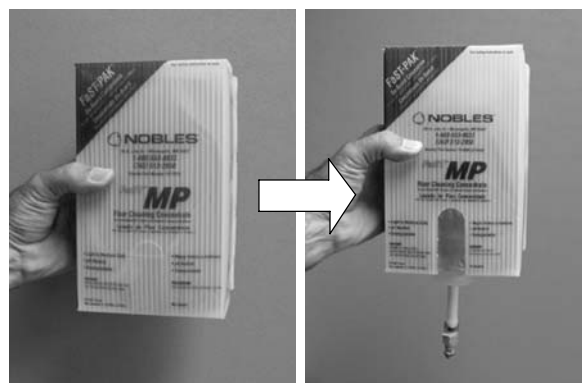

FIG. 11
- Remove the perforated knock-out from the FaST-PAK carton. Do not remove the bag from the carton. Pull the hose connector through the knock-out and remove the orange cap (Figure 11).